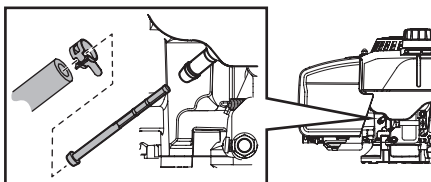

Figure 13
2. Remove hose clamp from fuel line and remove fuel line from tank outlet (Figure 13).
4. Grasp new fuel filter from shouldered end and insert it completely to the shoulder into the fuel tank outlet (Figure 13).